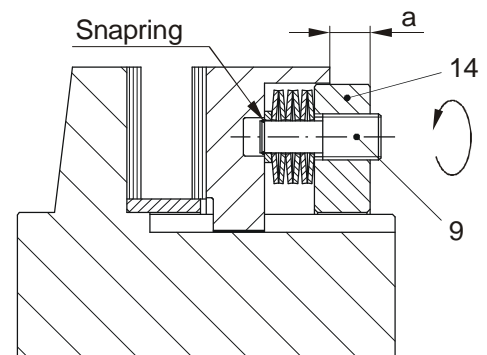

Fig. 22
On slip hubs Sizes 6 - 12, the distance dimension "a" indicates the size of the adjusted slip torque (Fig. 22).
Do not continue to turn the cup spring suspension bolts (19) against the snap ring resistance (Fig. 22).